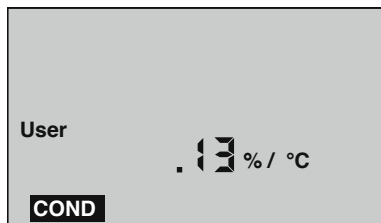

Figure 2
- b. With User mode now selected, press **CAL**/**MCLR**. You may now adjust a temperature compensation from .00%/°C to 9.99%/°C, by pressing **MS** (up arrow) or **MR** (down arrow). See example in Figure 2.